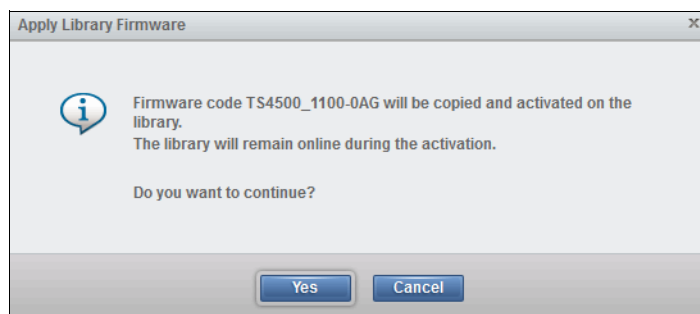

Figure 4-163 Firmware update confirmation
3. The Apply Library Firmware window opens. Click **Yes** to continue, as shown in Figure 4-163.